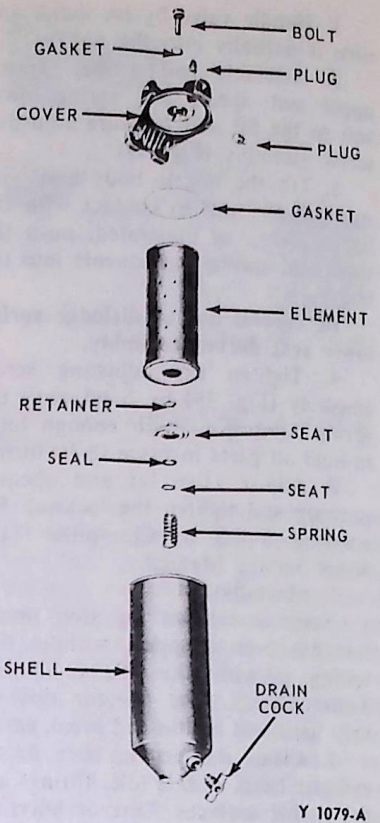

FIG. 95 Fuel Filter Details and Relative Location of Parts
1. With the engine stopped, place a container under the strainer or filter and open the drain cock (Figs. 95 and 96). Loosen the cover bolt just enough to allow the fuel to drain out freely. Then, close the drain cock.